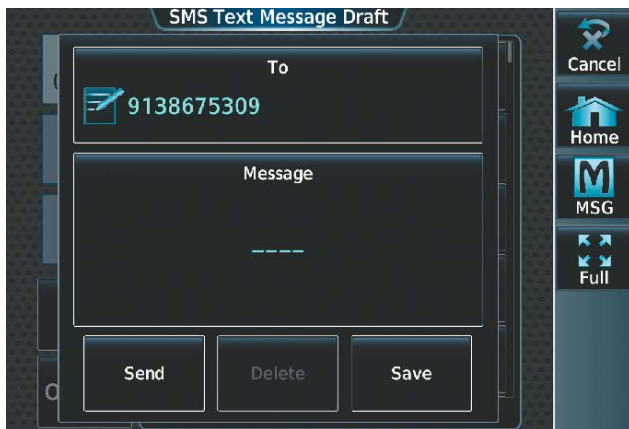

Figure 8-86 Touch Message Window
- 5) Touch the **Enter** Button. The number or address is now displayed as in Figure 8-86.